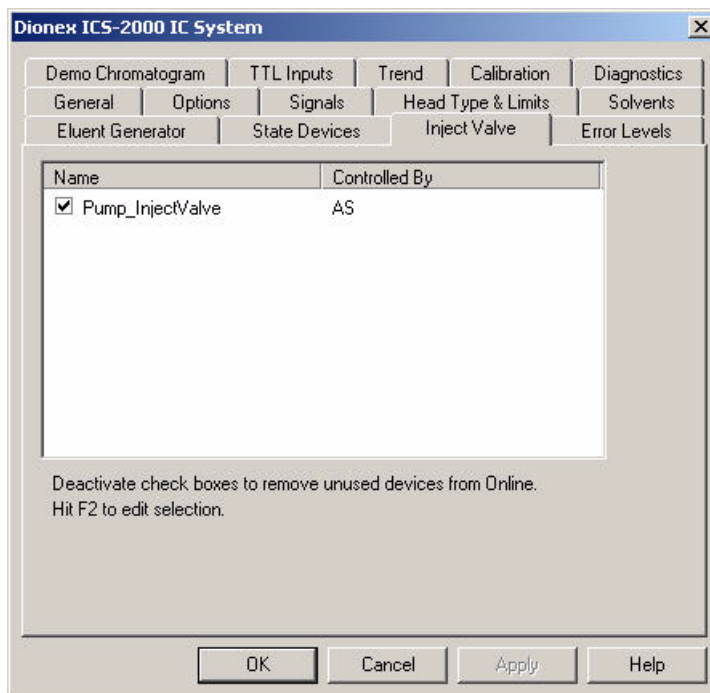

Figure 107. ICS-2000 Inject Valve Server Configuration Properties
- d. Verify that the **Pump_InjectValve** check box is selected and that **AS** is listed in the **Controlled By** column (see Figure 107).